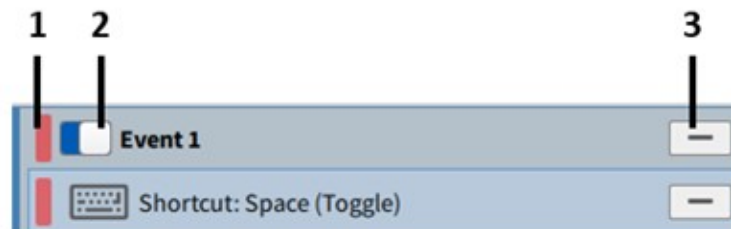

Fig. 9.12: Trigger Menu - Additional information
- Time Event: The event is activated in the dependency of a time condition. In the example in Fig. 9.11, the event is activated every 30 minutes for a duration of 1 minute, starting at 15:48:47 on Wednesday 14th of December 2022. If the *Active for* option is not enabled, the Event will be active for one Sample interval, i.e. for 1 ms if the sample Rate is 1 kHz. The red indicator (see ① in Fig. 9.12) won't highlight if the *Active for* option is not enabled.
- The red indicator shows if the respective event is active or not (see ① in Fig. 9.12)
- The blue switch deactivates the event permanently (see ② in Fig. 9.12)
- The – deletes the event (see ③ in Fig. 9.12)